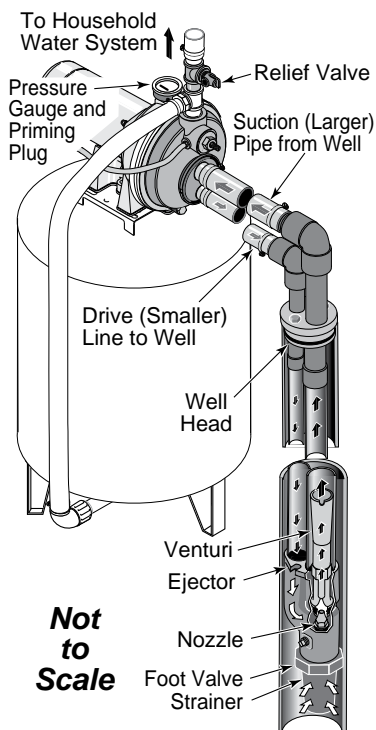

Figure 10: 4" and Larger Deep Well
4" Or Larger Well (Figure 10)
2. Assemble ejector kit FP4800 (sold separately). See Figure 10. Follow the instructions included with the kit in order to match the nozzle and venturi to your well conditions.